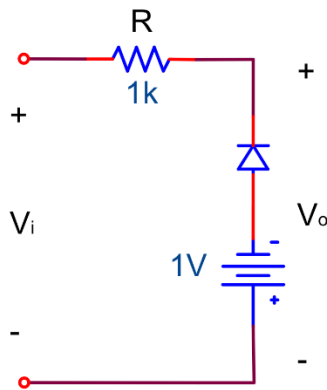

Figure 3.5
2. Refer to the circuit in Figure 3.5. Plot the transfer characteristic (output voltage amplitude versus the input voltage amplitude) and indicate the negative voltage at which the waveform at v_o is clipped. Assume a piecewise linear model for the diode with zero forward resistance and voltage found in experiment 2.